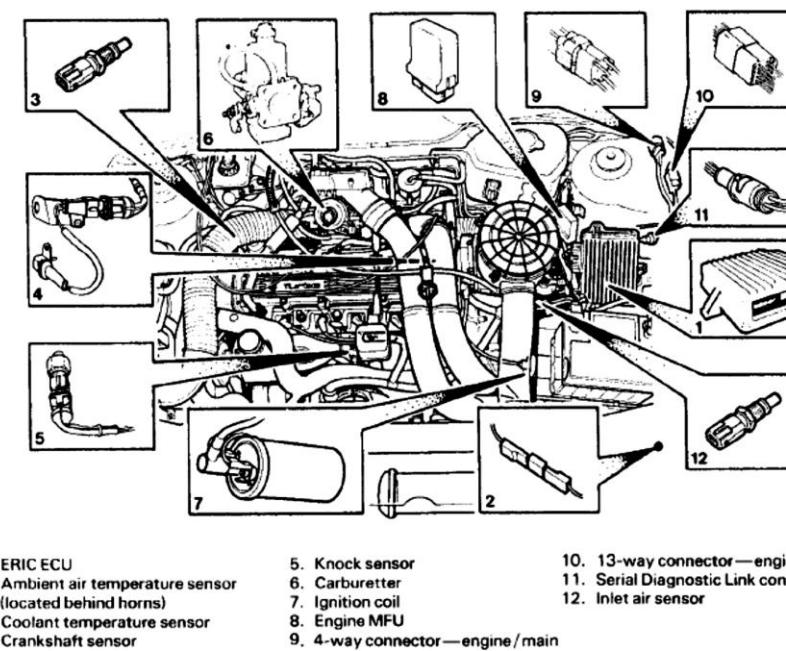

Fig. 5.10 The knock sensor on the engine
- In the application shown, the knock sensor is located on the engine block adjacent to cylinder number 3 (Fig. 5.10). This is the best position to detect vibrations arising from combustion knock in any of the four cylinders.